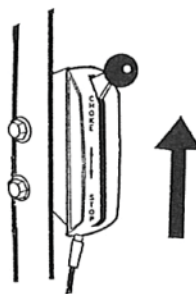

Figure 8
3. Move the throttle control to the (*Choke*) position. (Fig. 8)